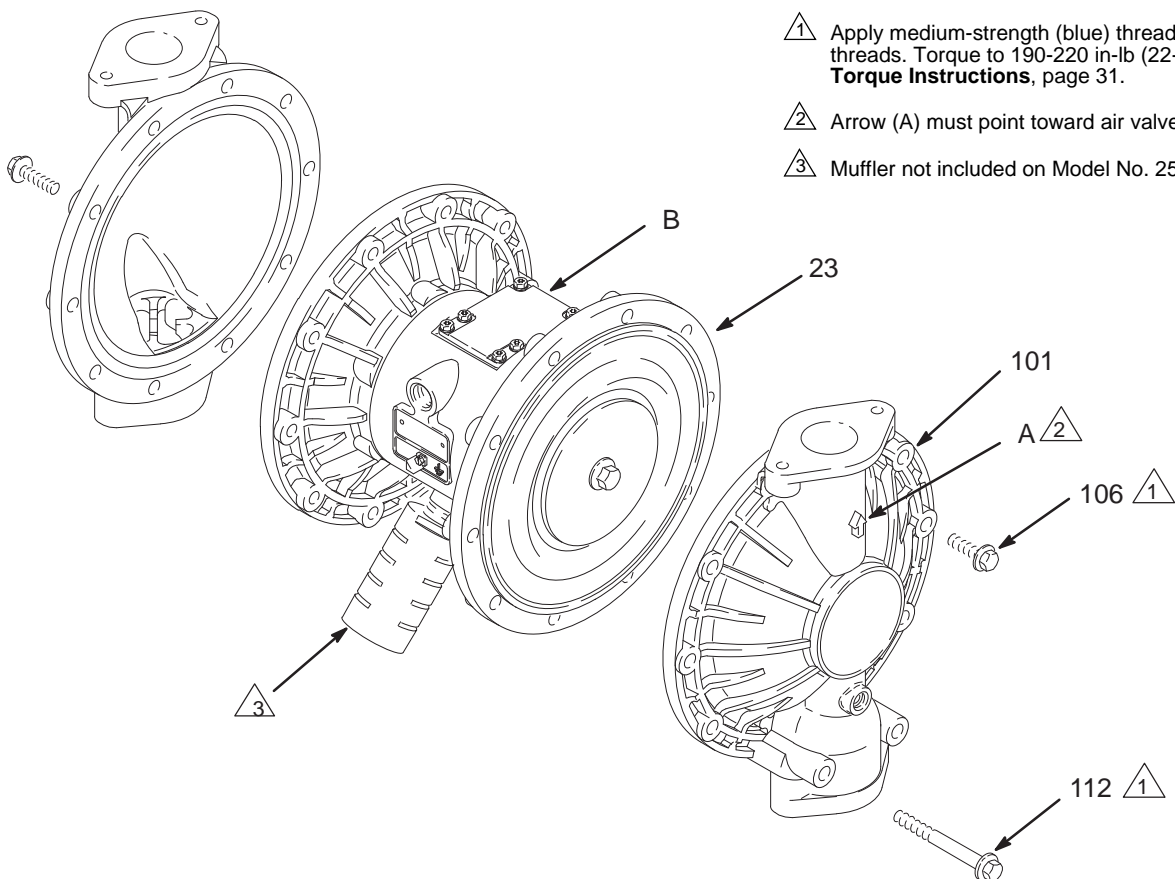

FIG. 11
3. Using a 13 mm socket wrench, remove the screws (106 and 112) holding the fluid covers (101) to the air covers (23). Pull the fluid covers (101) off the pump. See FIG. 11.
- a. Install the o-ring (108\*) on the shaft bolt (107).
- b. Install the fluid side diaphragm plate (105) on the bolt so the rounded side faces in, toward the diaphragm (401).
- c. *On PTFE models only*, install the PTFE diaphragm (403\*). Make certain the side marked AIR SIDE faces the center housing (1).
- d. Install the diaphragm (401\*) on the bolt. Make certain the side marked AIR SIDE faces the center housing (1).
- e. Install the air side diaphragm plate (104) so the recessed side faces the diaphragm (401).
- f. Apply medium-strength (blue) thread locker to the bolt (107) threads. Screw the bolt (107) into the shaft (24) hand tight.
- g. *For overmolded diaphragms:* Assemble the air side plate (104) onto the diaphragm (403). The wide, radiused side of the plate must face the diaphragm. Apply medium-strength (blue) thread locker to the threads of the diaphragm assembly. Screw the assembly into the shaft (24) hand tight.
3. Grease the length and ends of the diaphragm shaft (24), and slide it through the housing (1).
5. Hold one shaft bolt (107) with a wrench and torque the other bolt to 20-25 ft-lb (27-34 N•m) at 100 rpm maximum. *NOTE: This step does not apply to pumps with overmolded diaphragms.*
6. Align the fluid covers (101) and the center housing (1) so the arrows (A) on the covers face the same direction as the air valve (B). Apply medium-strength (blue) thread locker to the threads of screws (106) and (112), and secure the covers with the screws handtight. Install the longer screws (112) in the bottom holes of the covers. See Fig. 11. Using a 13 mm socket wrench, torque the screws oppositely and evenly to 190-220 in-lb (22-25 N•m). See **Torque Instructions**, page 31.